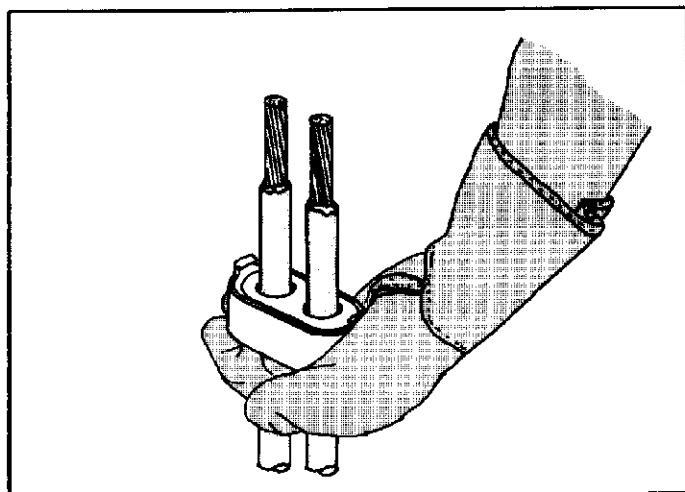

Figure 6
- (d) Place cover base over stripped conductors, as shown in Figure 6.